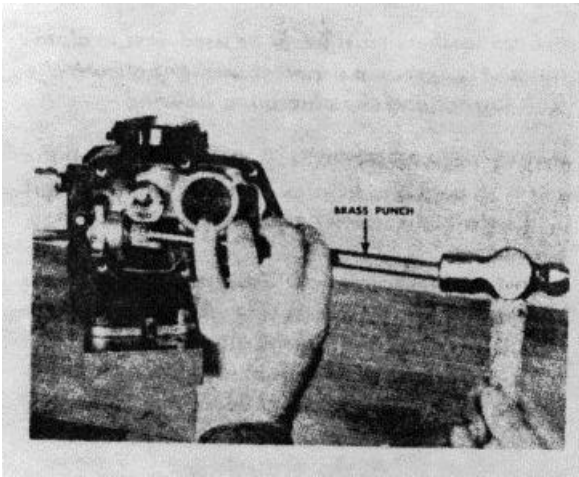

Figure 4-17. Loosening the tachometer drive in the housing
3. Use a brass punch, and slowly and carefully drive the tachometer drive assembly from the pump housing. Fig. 4-17.